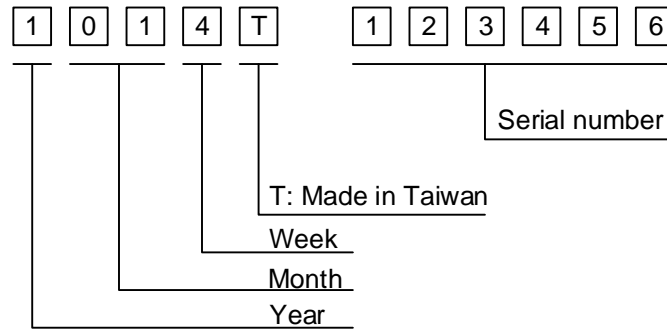

Fig. 9.1
1) The lot mark is showing in Fig.9.1. First 4 digits are used to represent production lot, T represented made in Taiwan, and the last 6 digits are the serial number.